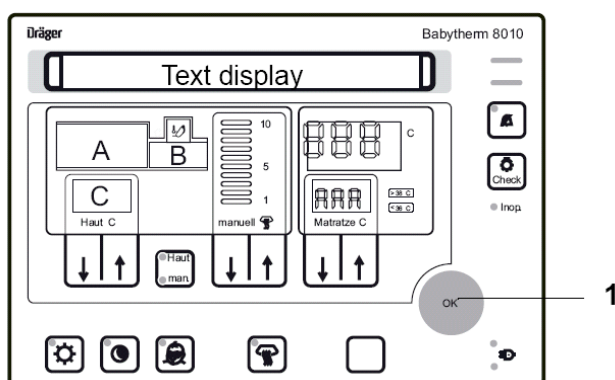

Fig. 6: Control unit; using the configuration mode.
- Press the OK button **1** (see Figure 6) again to confirm access to configuration mode.